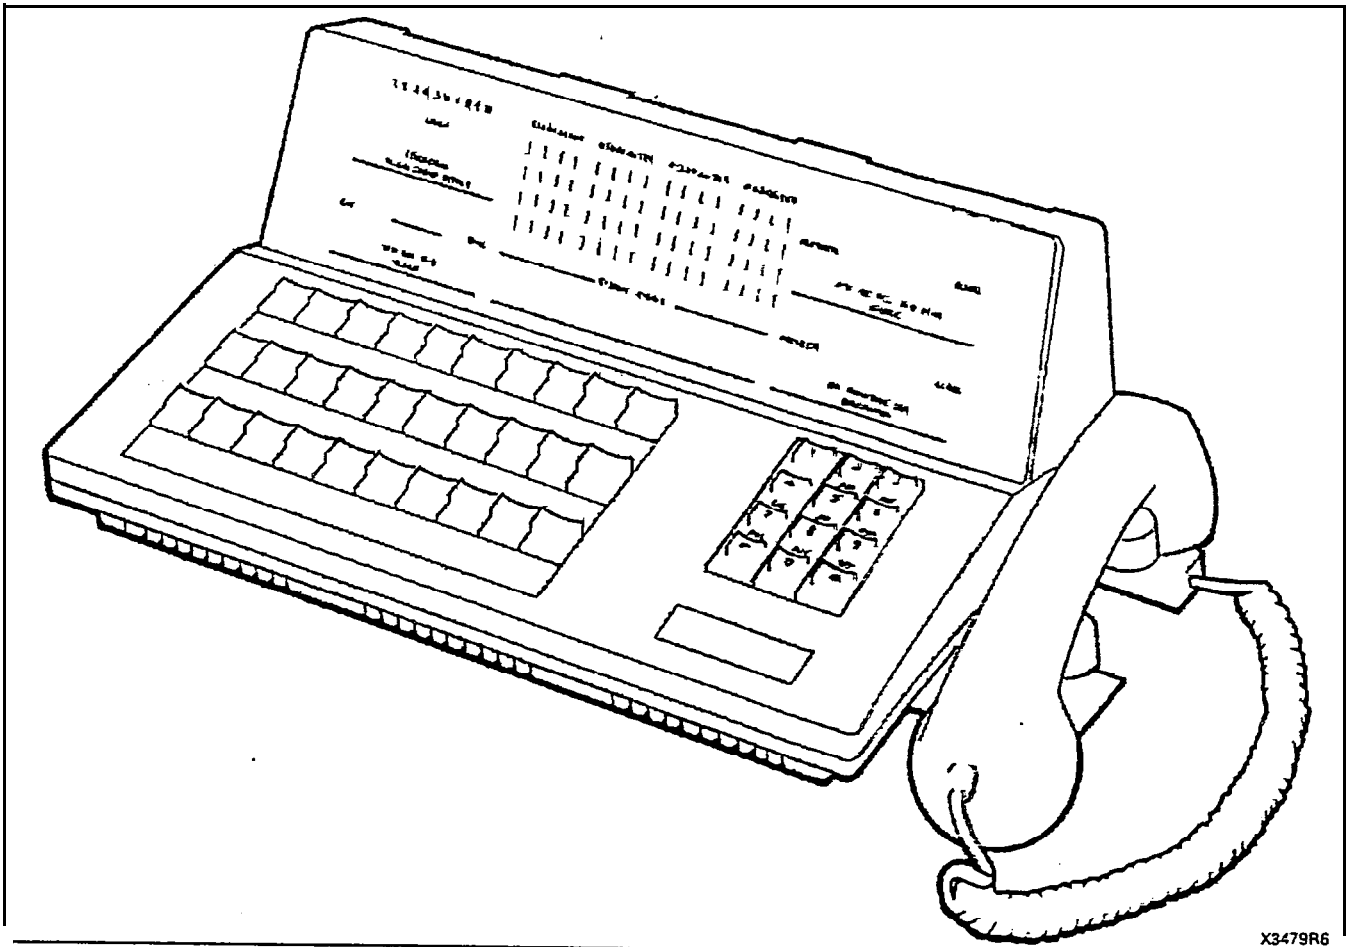

Figure 2-8 Attendant Console
2.16 The SX-100/SX-200 Attendant Console (see Figure 2-8) is enclosed in a housing with a smoked faceplate. Located on either side of the console are a pair of headset/handset jacks allowing simultaneous operation and supervision. The console keyboard holds three rows of 10 nonlocking keys for the selection of features and completion of calls. On the right of the keyboard is a 12-key push-button dial pad. The console display, mounted above the keyboard, displays the active states of the call in progress. In addition to the Call Status Display is a Busy Lamp Field, a Trunk Group status field, a Call Waiting Indicator, a digital clock and three Alarm Indicators. The weight of the Attendant Console is approximately 5.9 kg (13 lb) and its dimensions are 350 mm (13.75 in.) wide, 176 mm (6.8 in.) high and 236 mm (9.25 in.) deep. A complete description of the Attendant Console is contained in Section MITL9105/91 10-096-315-NA, Supervisor Console Description.